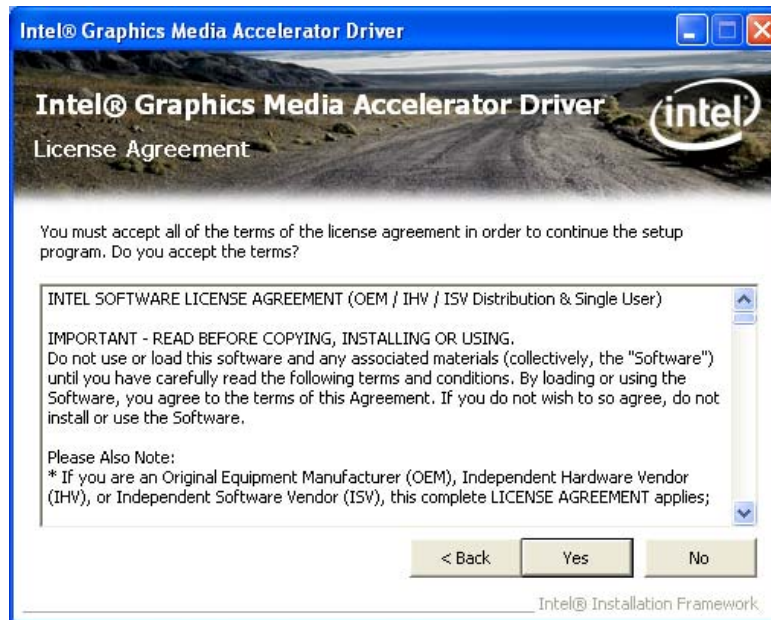

Figure 7-10: Graphics Driver License Agreement
Step 10: The **License Agreement** in **Figure 7-10** appears.